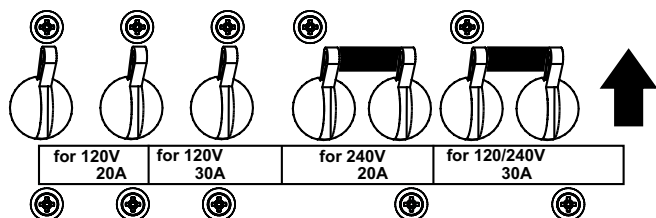

Figure 27. GFCI/AUX. Circuit Breakers (ON)
12. Place **GFCI** and **AUX.** circuit breakers (Figure 27) in the **ON** position.